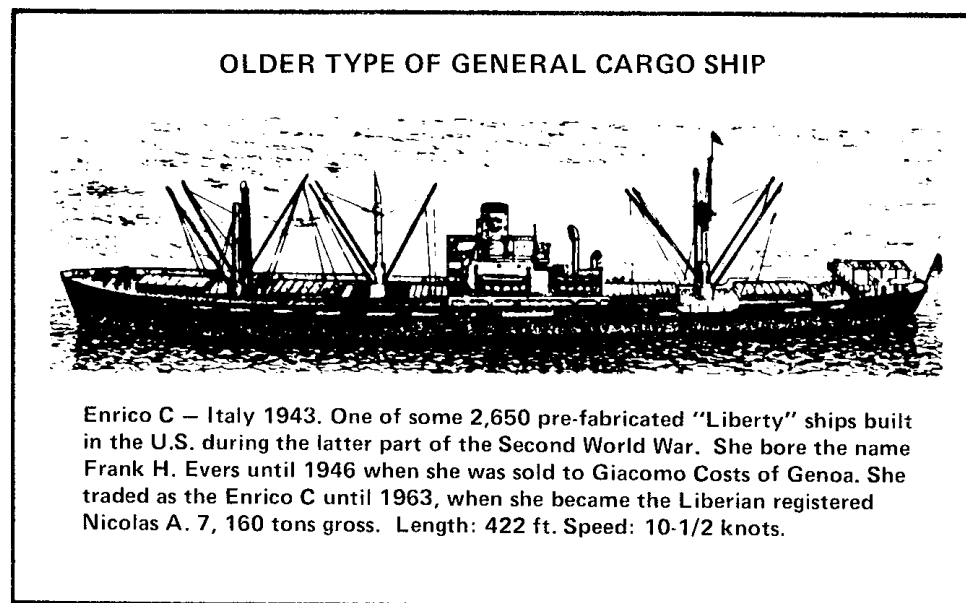

Figure 8-58 Older Type of General Cargo Ship
supported on steel beams, and covered with tarpaulins (sheets of tarred canvas). Steel hatch covers are usually fitted in modern ships. (See Figure 8-58.)
- t. **Derrick** — A long spar (usually of tubular steel) hinged to the foot of a mast or kingpost and used like the jib of a crane to load and discharge cargo from the hold beneath it. (See Figure 8-58.)
- c. **Cargo Ship** — (See Figures 8-58 and 8-60.) These vessels are of many classes and varieties; their gross tonnage varies from about 2,000 to 15,000 and their speed from about 10 to 15 knots. They are designed to carry all types of general cargo. They ply between all ports of the world, and as they do not follow a regular route they are often known as **tramps**. They can usually be distinguished by their **small upperworks** and their **numerous masts, posts and derricks**. They constitute the largest class of ocean-going vessels.